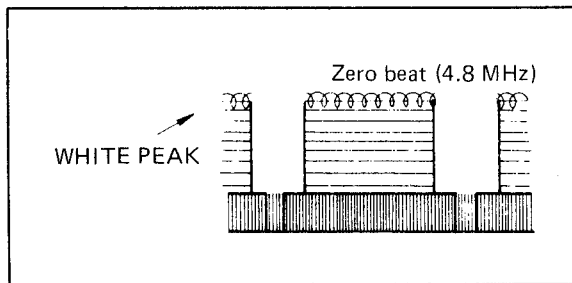

Fig. 6-26
6. Set the frequency of high-frequency sine-wave generator to 4.8 MHz, and adjust R27 (DEVIATION), so that the waveform observed on the oscilloscope shows a zero beat at the top of the video signal as shown in Fig. 6-26.